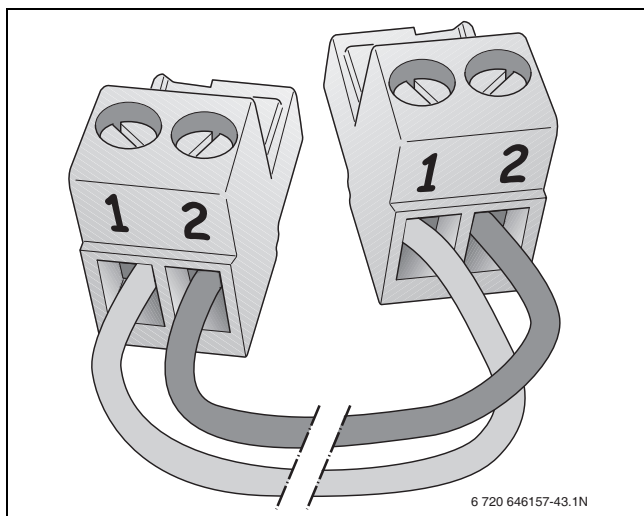

Fig. 47 EMS bus polarity
- Make an EMS bus connection cable using a 2-core cable and the connector enclosed with the module (→ fig. 47).